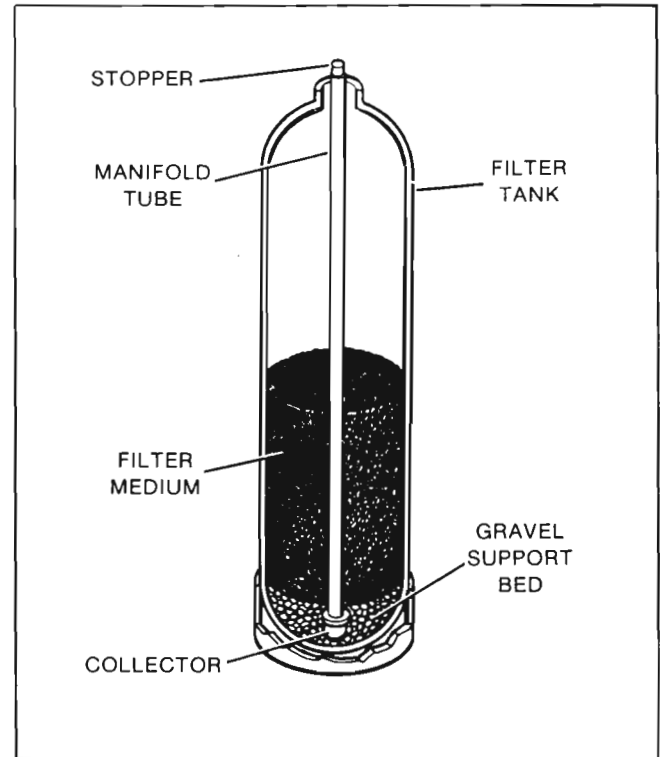

Figure 2. Loading the Filter Tank
2. Place the manifold tube with the collector end inserted first into the filter vessel. See Figure 2.